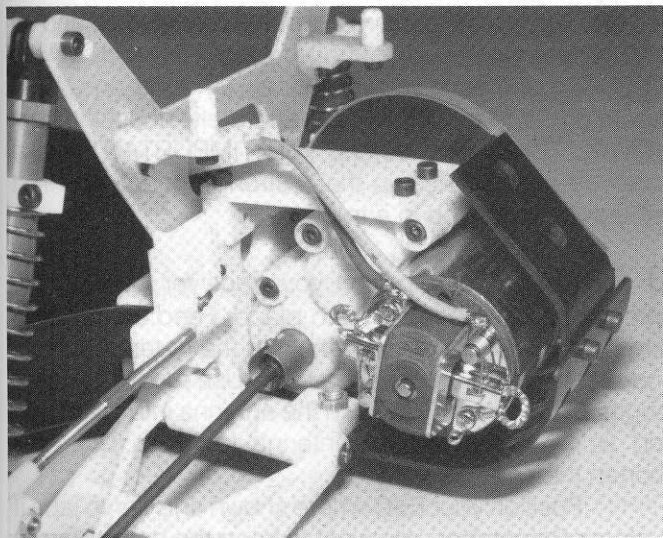

Fig. 140
□ **Figs. 140 & 141** Slip the motor in the motor mount and start the bottom screw in first. Do not tighten all the way down yet. On the top screw, put a washer on the screw and screw it in, but not tight. **NOTE:** Most motors are imported and use 3mm mounted screws, which are different from the rest of the fasteners in the kit. Make sure you do not mix them up.